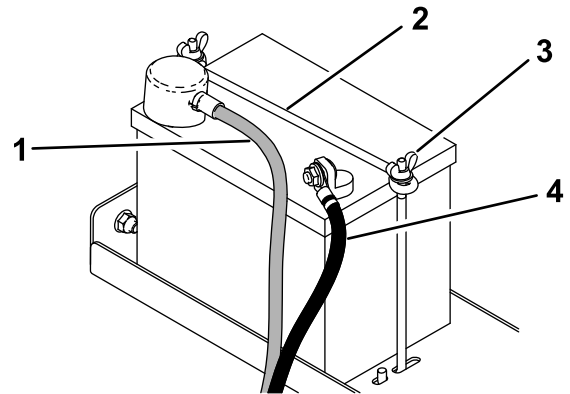

Figure 32
3. Remove the negative battery cable from the battery (Figure 32).
4. Remove the positive battery cable from the battery (Figure 32).
5. Remove the 2 wing nuts, securing rod, and the battery (Figure 32).
1. Place the battery on the platform and secure it using the 2 wing nuts and the securing rod (Figure 32).
2. Install the positive battery cable to the battery (Figure 32).
3. Install the negative battery cable to the battery (Figure 32).